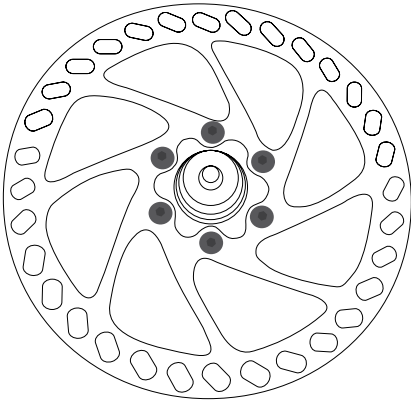
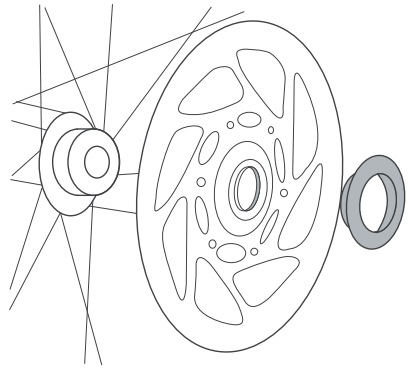

Figure 3. Rotor bolts
Figure 4. Centerlock nut
For wheels with disc brakes, make sure the brake rotor attachment (Figure 3 or Figure 4) is tight:
- + Tighten rotor bolts (Figure 3) to 45-55 Lb•in (5-6.2 Nm).
- + Tighten a Centerlock nut (Figure 4) to 350 Lb•in (40.2 Nm).